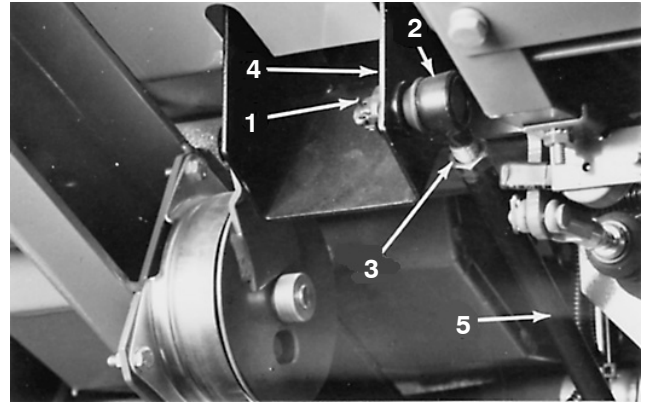

Figure 76
- Remove cotter pin and slotted nut from ball joint at traction pedal (Fig. 76). Disconnect ball joint from traction pedal.